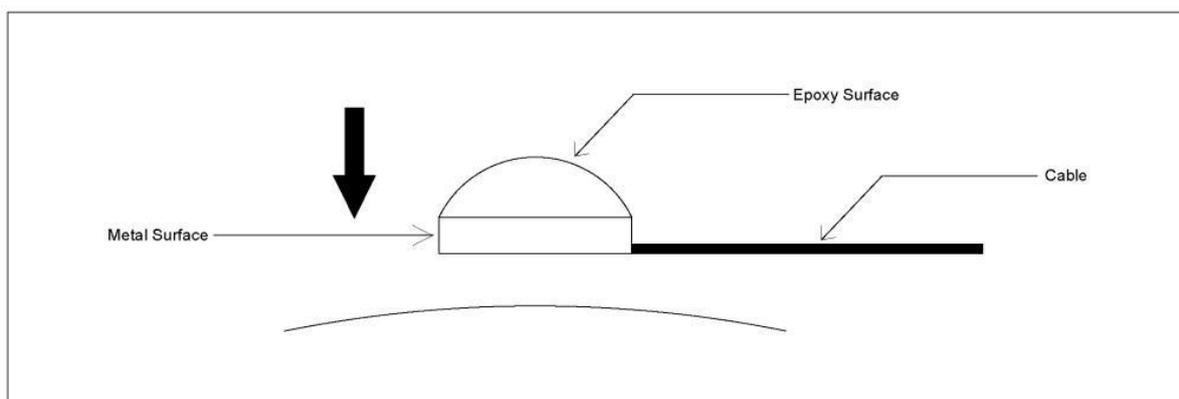

Figure 3
- ❖ Fix the skin temperature sensor tip on the skin with the soft surgical tape available in hospitals and cautiously remove. (Figure 3)